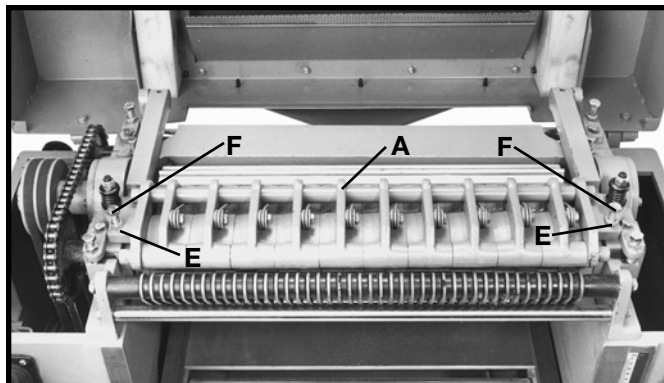
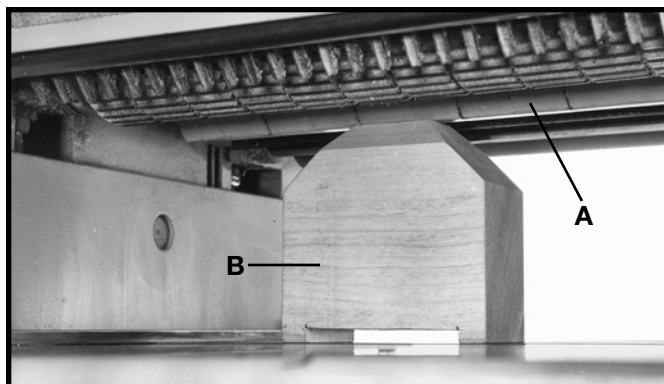

Fig. 37
Fig. 39
The chipbreakers (A) Fig. 37, are located on top of the planer and extend downward around the front of the cutterhead. The chipbreakers will rise as stock is fed through the planer and “break or curls” the wood chips. The bottom of the chipbreakers must be parallel to the knives and set .040" below the cutting circle. To check and adjust the chipbreakers, proceed as follows:
4. Move gage block (B) Fig. 39, directly under chipbreakers (A) as shown. The bottom of chipbreakers (A) Fig. 39, should just touch gage block (B).
5. If an adjustment to the chipbreakers is necessary, loosen two hex nuts (E) Fig. 37, and turn adjustment screws (F) until chipbreakers (A) Fig. 39, touch gage block (B) at both sides of the table.